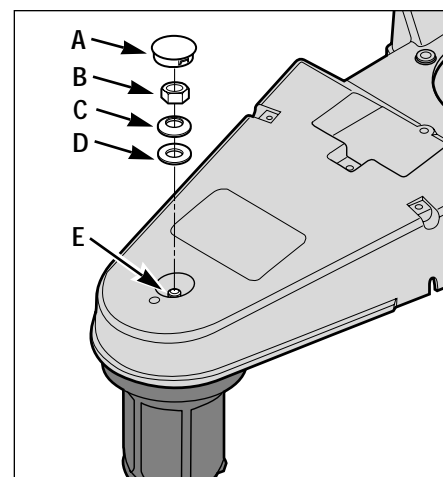

Figure 5-4
4. Remove the plastic plug (A, Figure 5-4) from the top of the mower deck.
5. Using a 3/4" socket wrench, remove nut (B, Figure 5-4), belleville washer (C) and flat washer (D) from spindle shaft (E).